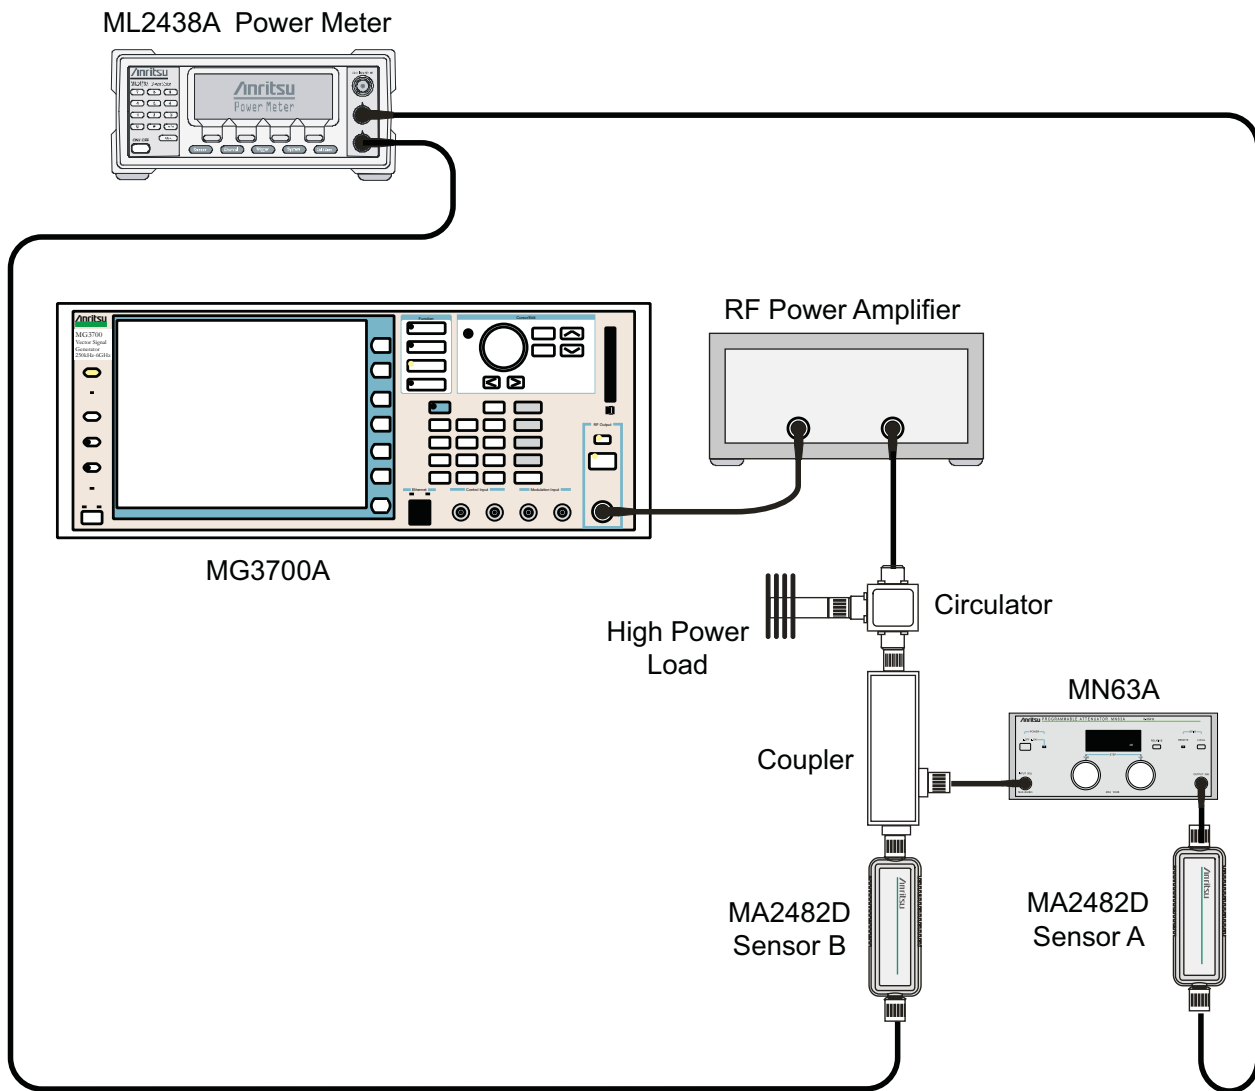

Figure 5-8. WCDMA Signal Analyzer Option Verification (Setup 1)
2. Connect the MG3700A, RF power amplifier, attenuator, power meter, and sensors as shown in Figure 5-8.
4. Press the **On/Off** key to turn On the MT821xE and wait until the measurement display appears. Then press the **Shift** key and press the **Mode** (9) key to activate the mode selection menu.
6. Press the **Shift** key, the **Preset** (1) key, and then the Preset submenu key.